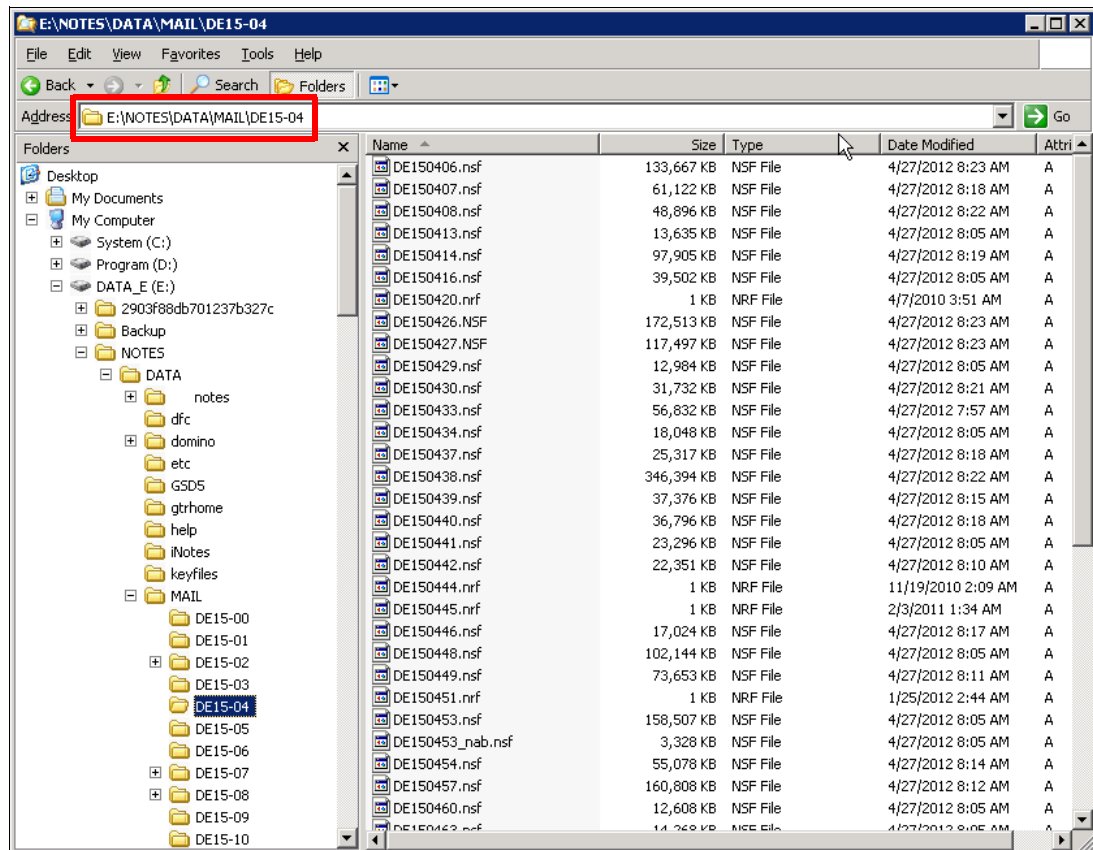

Figure 20-1 The location of mail files in Domino storage
- ▶ Figure 20-1 shows the location of mail files in Domino storage.